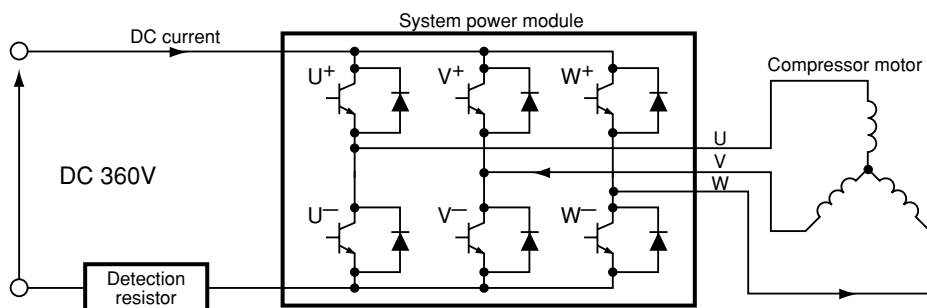

Fig. 8-6
- (1) As shown in Fig. 8-6, U⁺ and V⁻ transistors on power module are turned on to apply current to winding of motor.